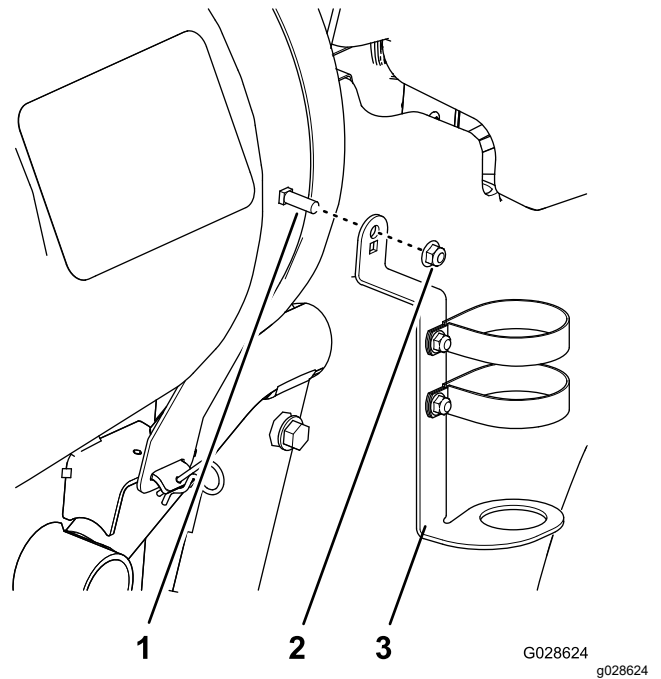

Figure 7
7. Remove the flanged locknut (3/8 inch) at the lower-outboard carriage bolt at the right, front tank strap, assemble the spray gun bracket to the carriage bolt, and secure the bracket with the flanged locknut (Figure 7).